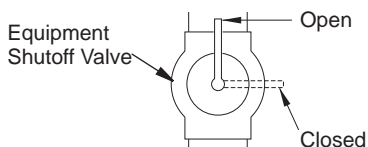

Figure 14 - Equipment Shutoff Valve
1. Close equipment shutoff valve (see Figure 14).
1. Open equipment shutoff valve (see Figure 14).
3. Close equipment shut off valve (see Figure 14, page 15).